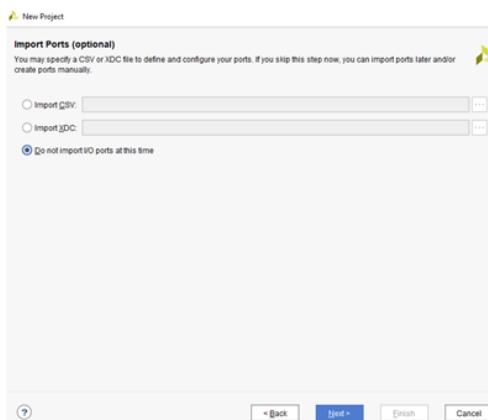

Figure 6: Import Ports option
- Choose “Do not import I/O ports at this time” (Figure 6) and click Next: